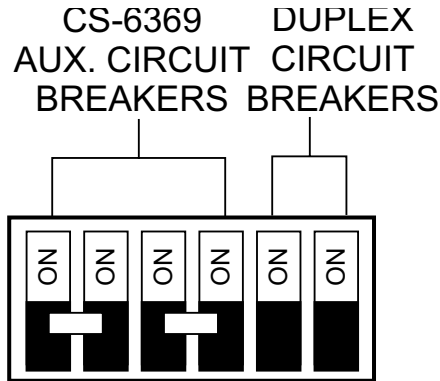

Figure 58. Auxiliary and GFCI Circuit Breakers (ON)
1. Place **auxiliary** and **GFCI** circuit breakers in the **ON** position (Figure 58).